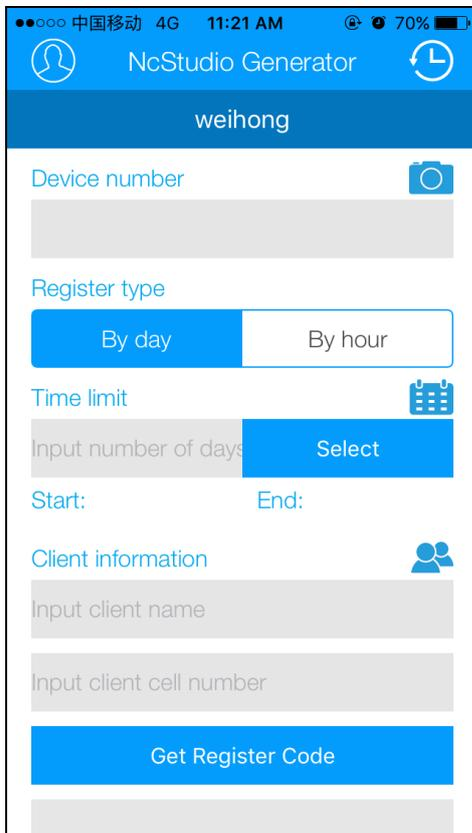
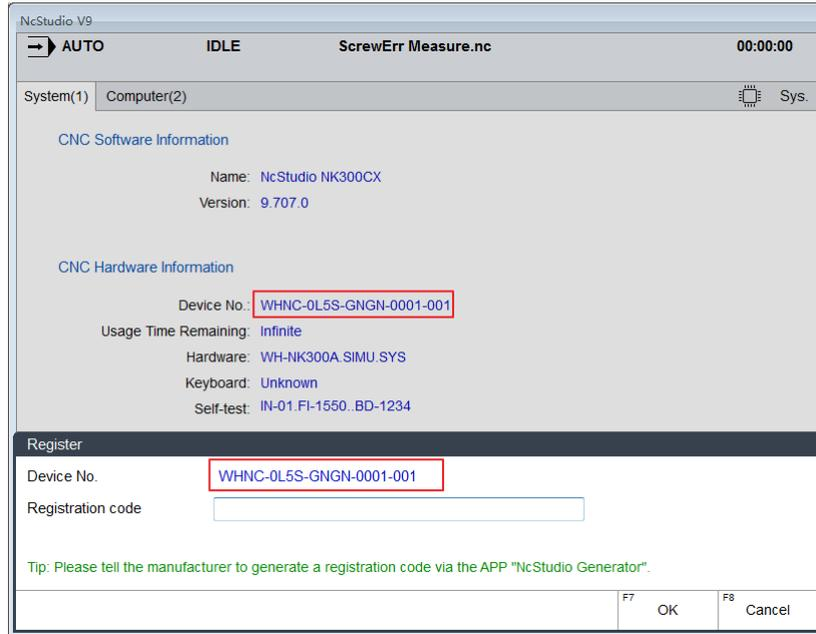

Fig. 3-87 Function Page
Fig. 3-90 View Device Number
- 1) In interface 「System (1)」 under functional area [System], view the current device number. Or you can view the device number in dialog box “Register” after pressing F1 in the interface 「System(1)」, as shown in Fig. 3-90. The number is also the device number shown in Fig. 3-87.
- 2) Input the registration code generated in the APP into the input box “Registration code” in dialog box “Register”, as shown in Fig. 3-90. Then press F7 to confirm.
- 3) The system prompts “Register successfully. Please restart software!” Restart the machine. After restart, you can view the current left time for use in interface [System (1)] in functional area [System].